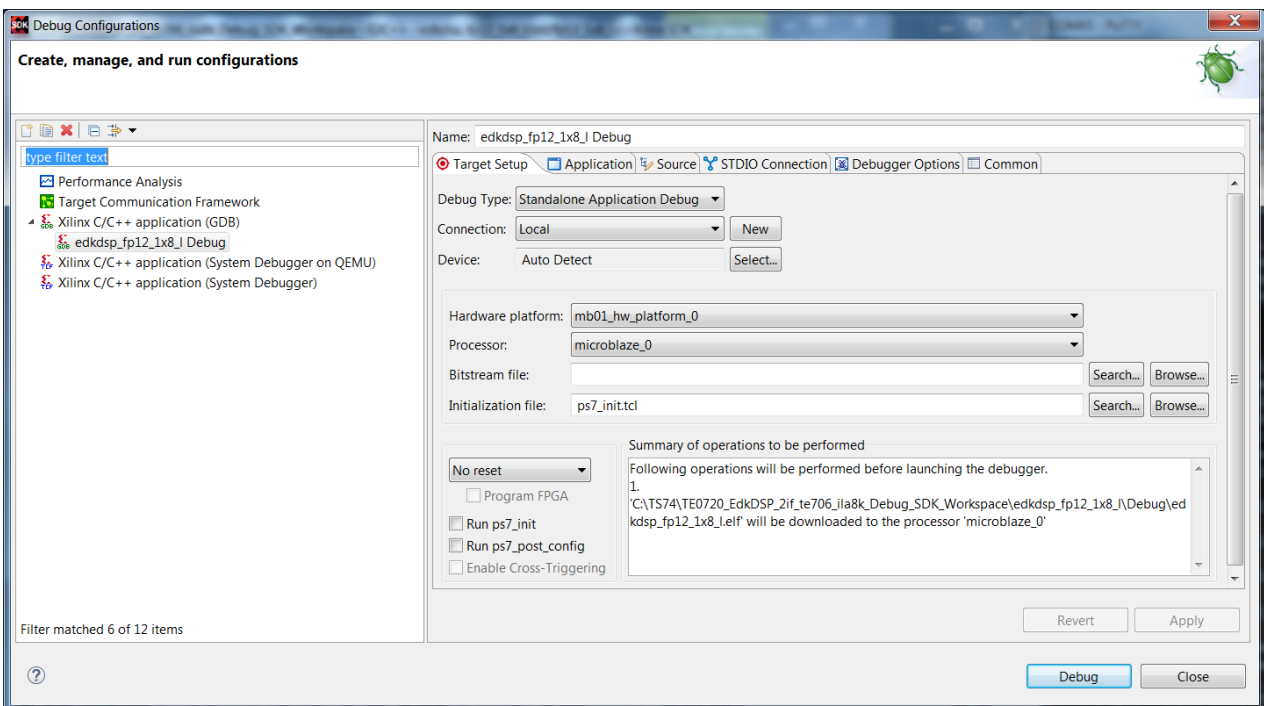

Figure 26: Select MicroBlaze project `edkdsp_fp12_1x8_1` for debug.
- In the Xilinx SDK environment on the PC, select debug project (See *Figure 26*):